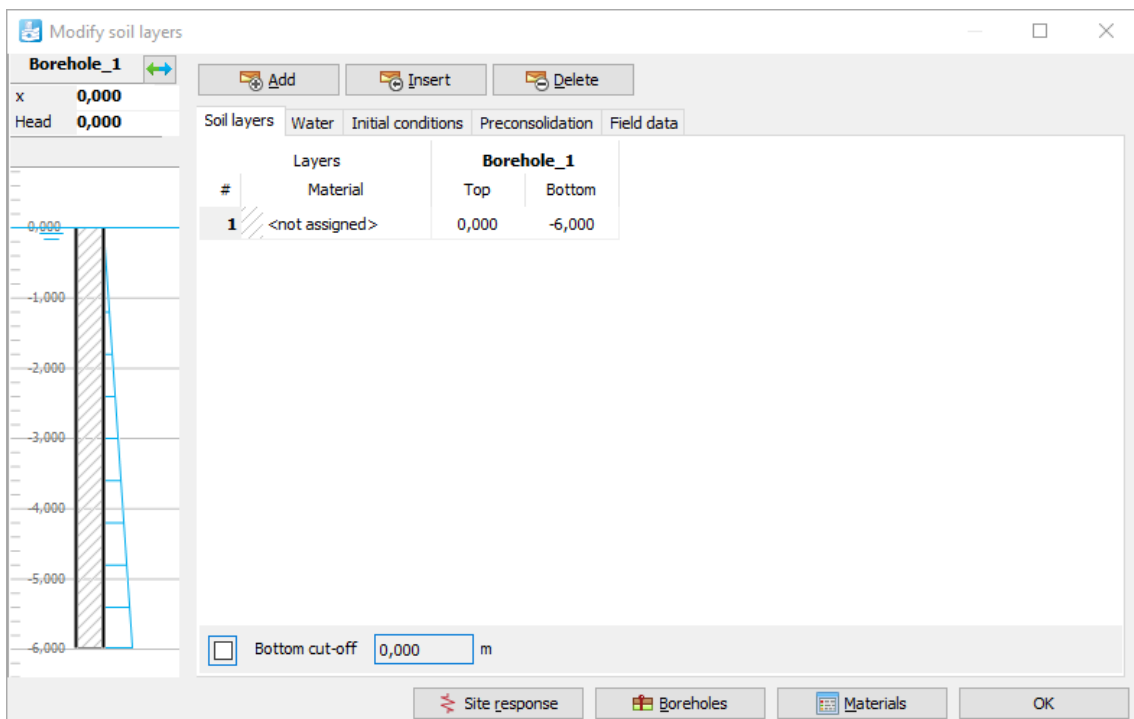

Figure 29: The soil stratigraphy in the **Modify soil layers** window
1. Click the **Create borehole** button  and create a borehole at $x = 0$. The **Modify soil layers** window pops up as shown in Figure 29 (on page 40).